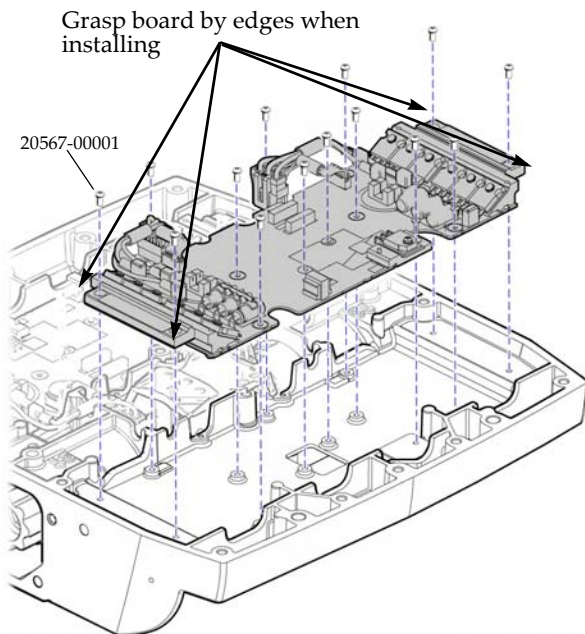

Figure 11-5: Install CU Board
4. Thread (14) M3 x 0.5 x 8 (20973-00001) through CU board into chassis. See Figure 11-5.